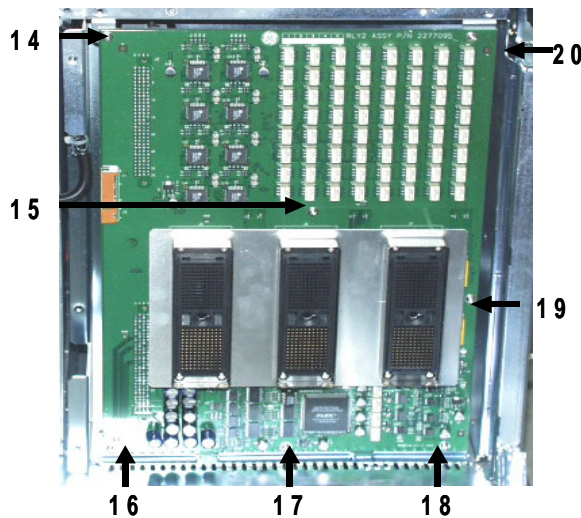

Figure 8-81 Unscrew 7 screws to remove the RLY Board
5.) Unscrew seven (7) screws (14-20) to remove the RLY Board. Refer to Figure 8-81.